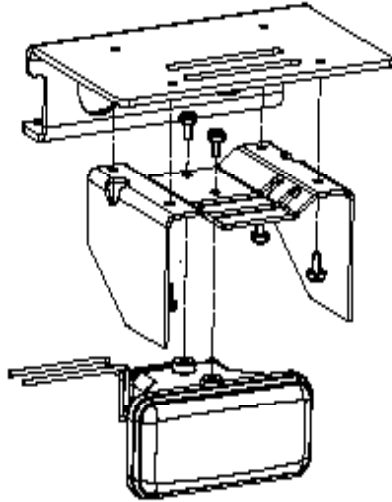

FIGURE 4
Step 2 With the lighthouse assembly placed on a work surface with the lighthouse up, remove the four screws that attach the lighthouse to the lightbar mounting bracket (See Figure 4). It is not necessary to remove the heat shield.